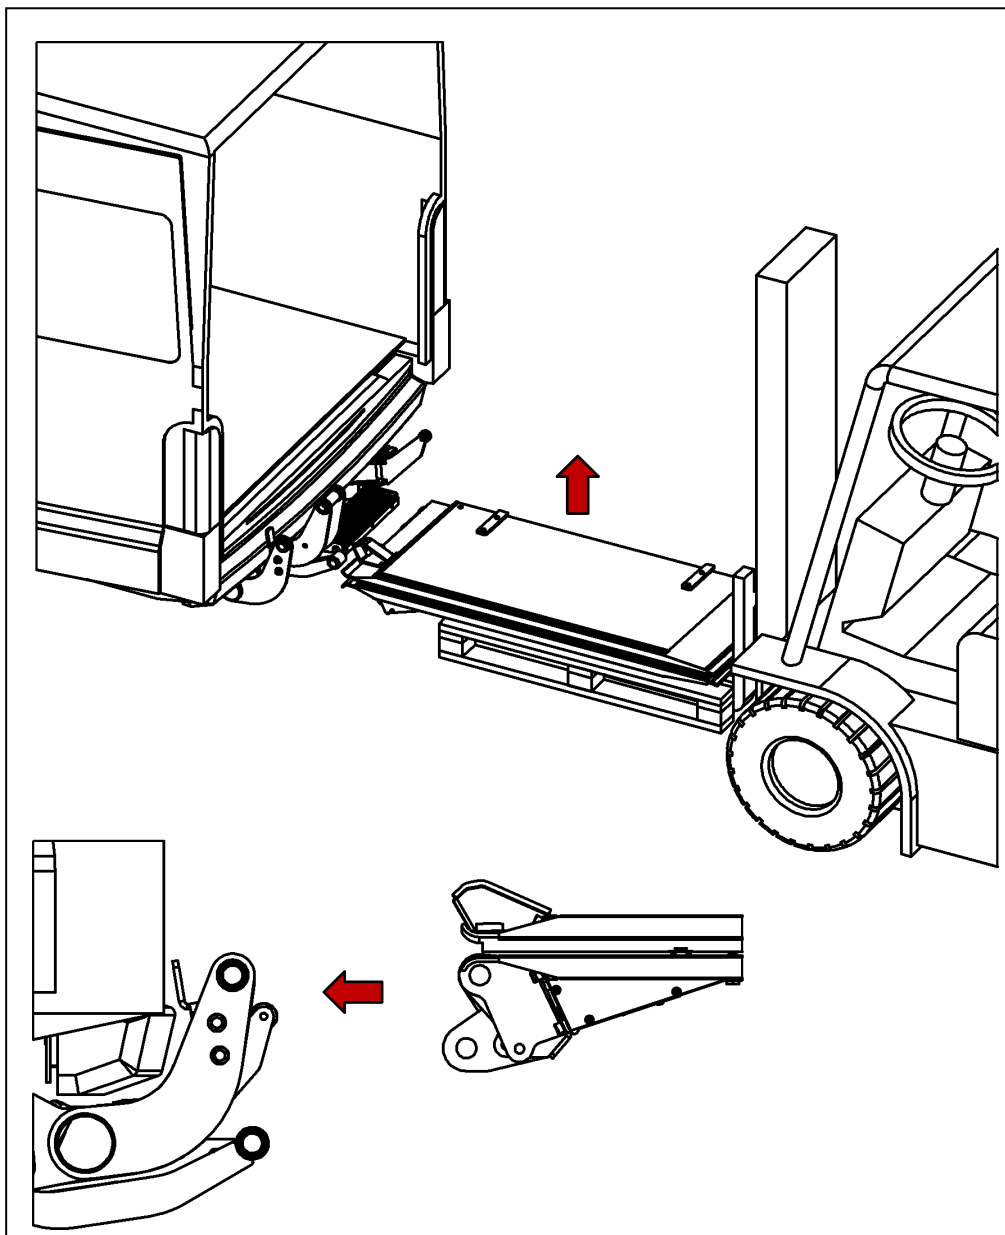

Figure 53
- Lift the platform using suitable means, e.g. crane, assembly table, or pallet truck and pallet (see Fig. 53).